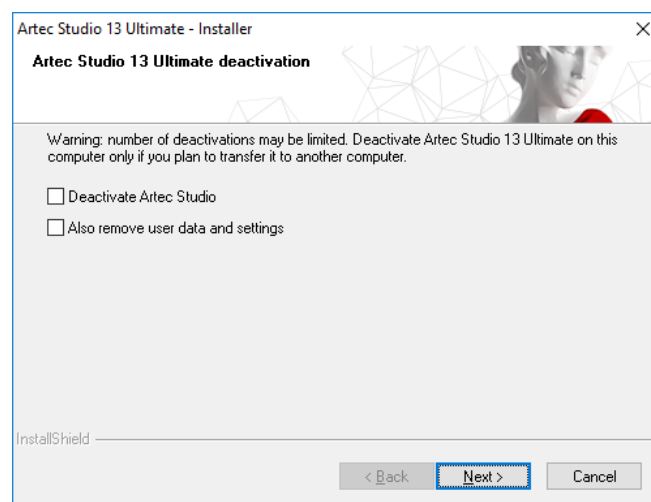

Figure 24: Deactivation of Artec Studio.
3. The dialog shown in **Figure 24** will appear. Select the *I understand. Deactivate Artec Studio* checkbox.